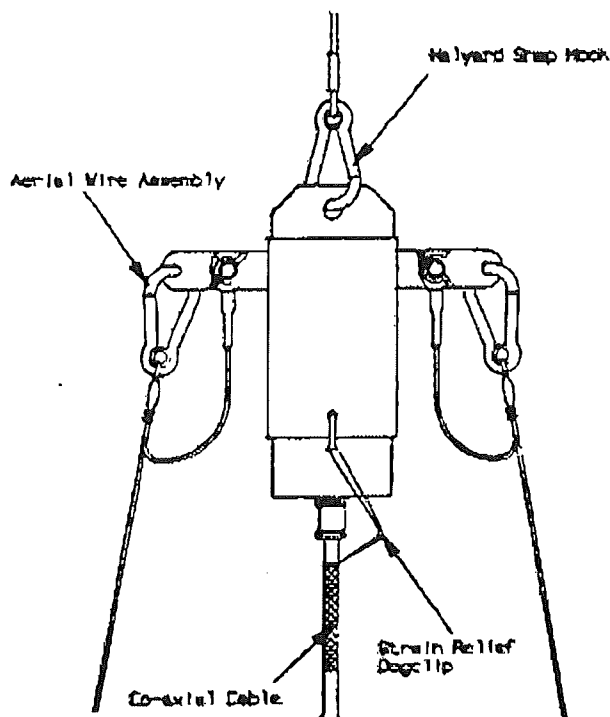

Figure 5-11. Sloping Vee Balun Connections
- Step 7 Repeat Steps 4, 5 and 6 with the other reel for the second element. See Figure 5-11.